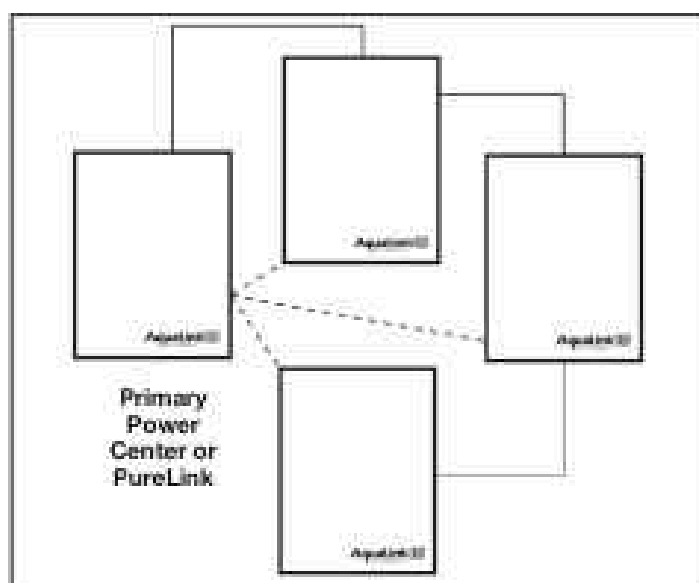

Figure 22. Wiring Multiple Power Centers
1. The auxiliary power centers may be wired "in series", starting from the primary power center (solid line) or wired "in parallel" from the primary power center (dashed line). See Figure 22.